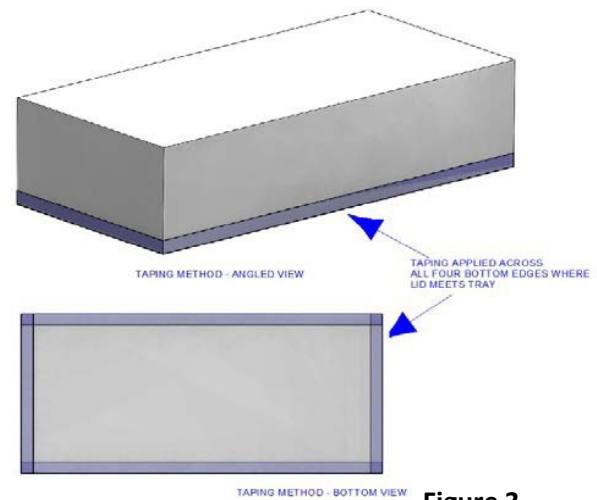

Figure 3
- 3. All telescoping master cartons should be taped on all four edges where the top lid meets the bottom tray (reference Figure 3 at right)